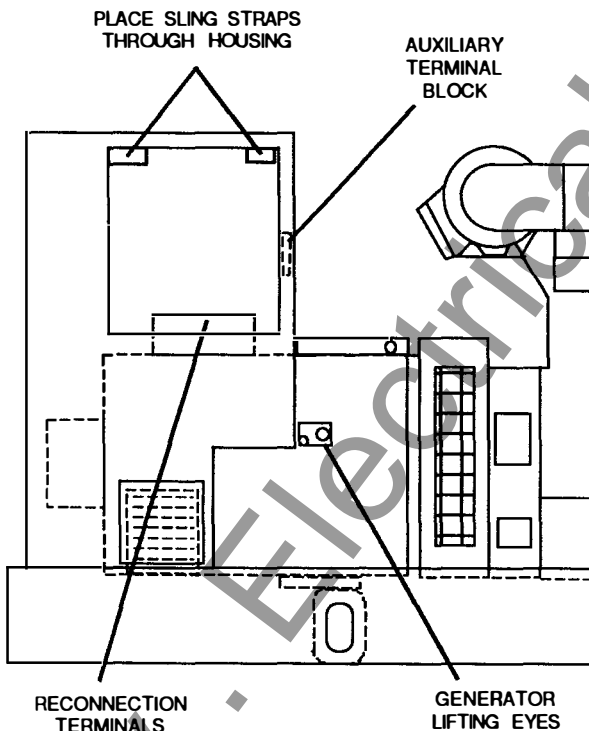

FIGURE 6-2. REMOVING CONTROL HOUSING
4. Disconnect all load wires from the reconnection terminal block assembly (see Figure 6-2). If equipped with the circuit breaker option, disconnect load wires from circuit breaker. Check that all leads are labeled to ease reassembly.
5. Disconnect all wire leads from the auxiliary terminal block, inside conduit box (see Figure 6-2), that would interfere with control housing removal. (Example: exciter stator leads X and XX.) Before disconnecting, check wire markings for legibility to ease reassembly.
7. Use a hoist or similar lifting device to support the control housing assembly (see Figure 6-2).